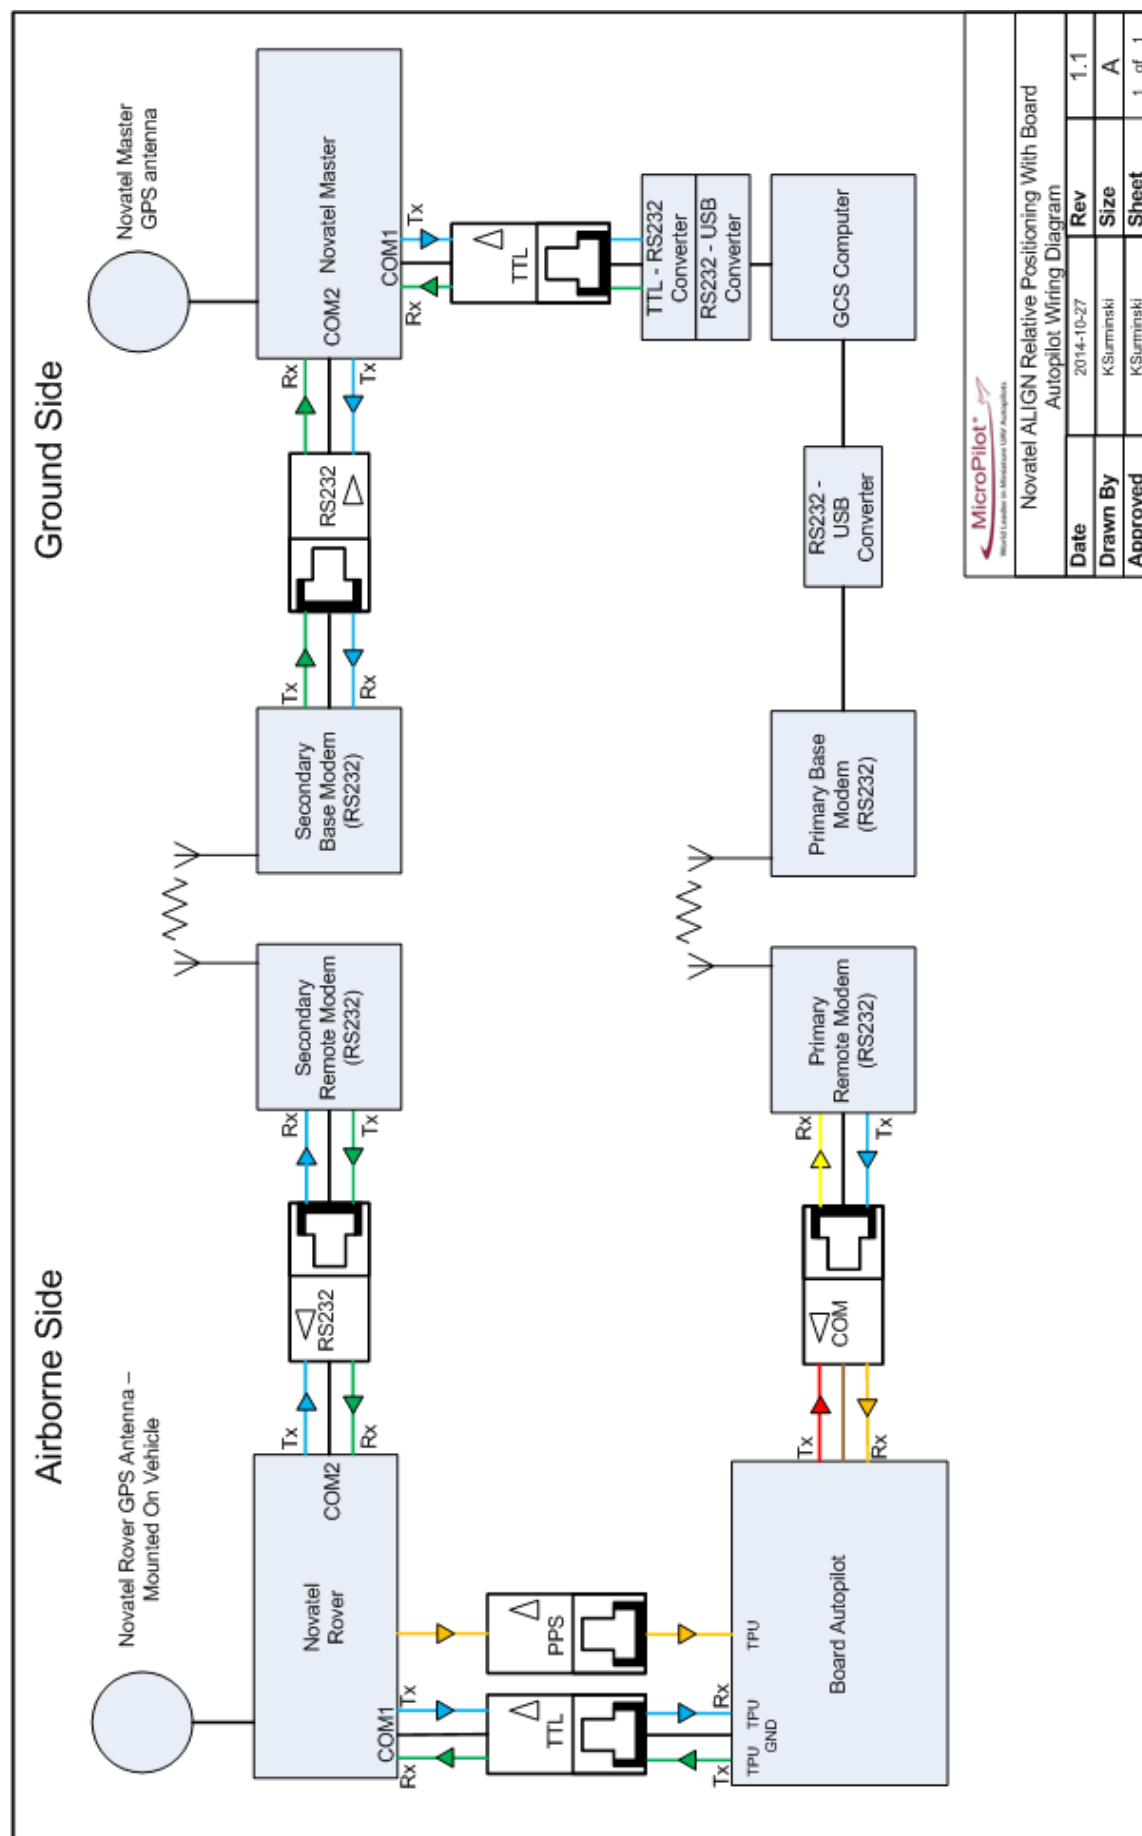

Figure 18 - NovAtel ALIGN Relative Positioning with Board Autopilot Wiring Diagram
- See Figure 18 - NovAtel ALIGN Relative Positioning with Board Autopilot Wiring Diagram